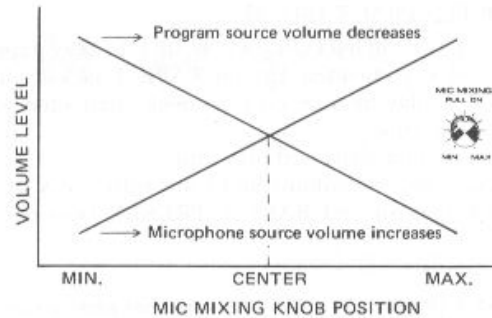

Fig. 8
3. Use the MIC MIXING control to adjust mixing ratio between microphone and program sources. Turn the control clockwise to reduce the program source volume and increase the microphone source volume, as shown in Fig. 8.
As indicated in Fig. 8, if microphone and program source input levels are the same, only the program source will be heard when the MIC MIXING control is set to MIN. Clockwise rotation of the control reduces the program source sound and increases the microphone source sound, with a 1 : 1 ratio obtained at center position. When set fully clockwise to MAX, only the microphone source can be heard, without the program source.